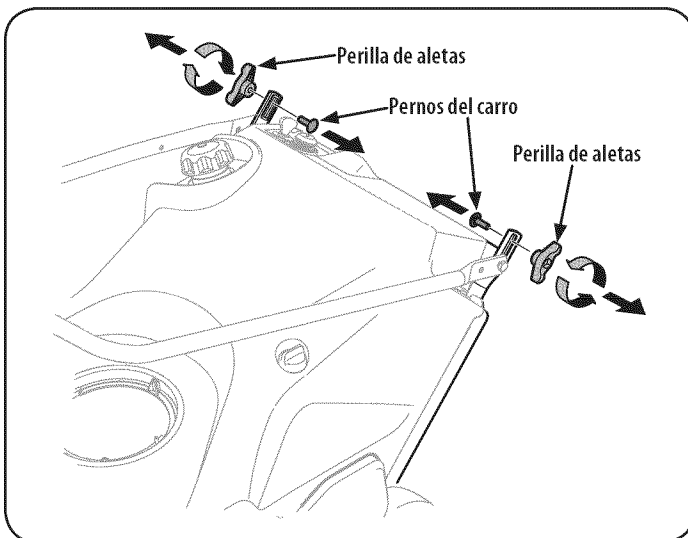

Figure 1
1. Remove the wing knobs and carriage bolts from the top of the lower handle. See Figure 1. It is not necessary to remove the shoulder screw and flange lock nut below the wing knob and carriage bolt.